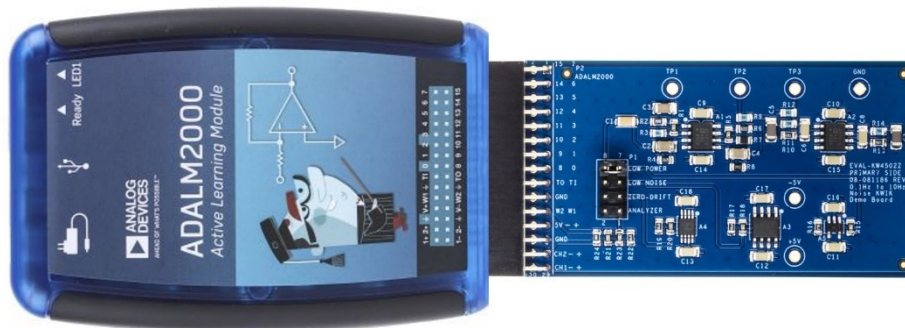

Figure 6. EVAL-KW4502Z with ADALM2000
- Connect the EVAL-KW4502Z top side with the top side of the ADALM2000 aligning their pinouts as shown in Figure 6.